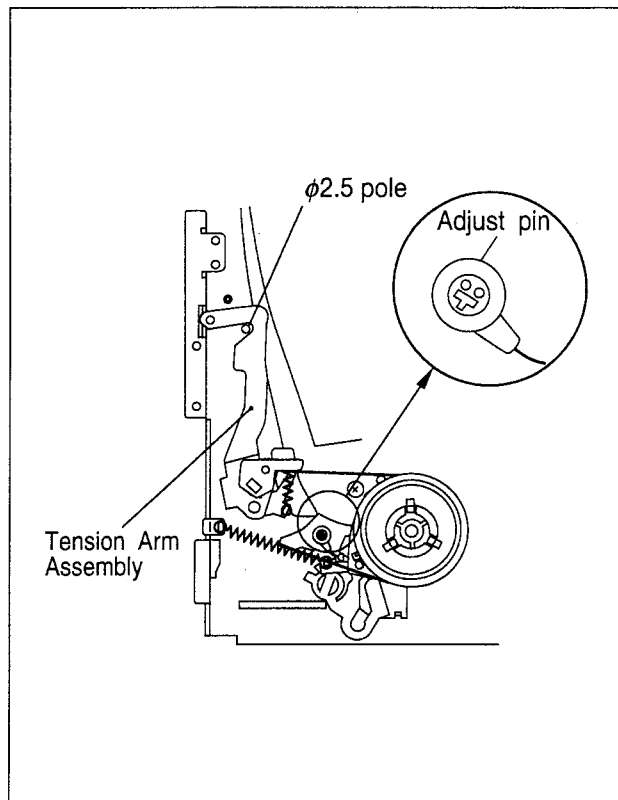

Fig. 2-8-9
- 2) Set the VCR to the play back mode and turn the adjust pin using the flat-blade screwdriver, etc. by paying attention not to come into contact with the 2.5 mm dia. Pole. (See Fig 2-8-9.)